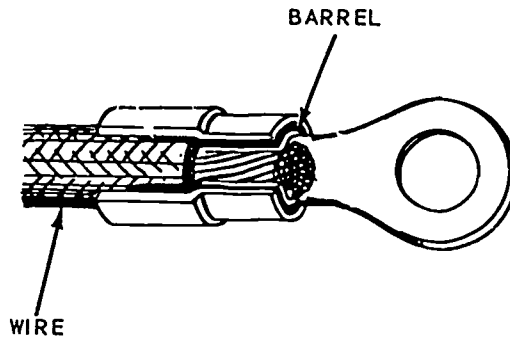

Figure 4.
- f. Put the stripped end of the wire in the terminal lug barrel. Make sure the insulation of the wire is flush against the barrel of the terminal lug, see figure 4.